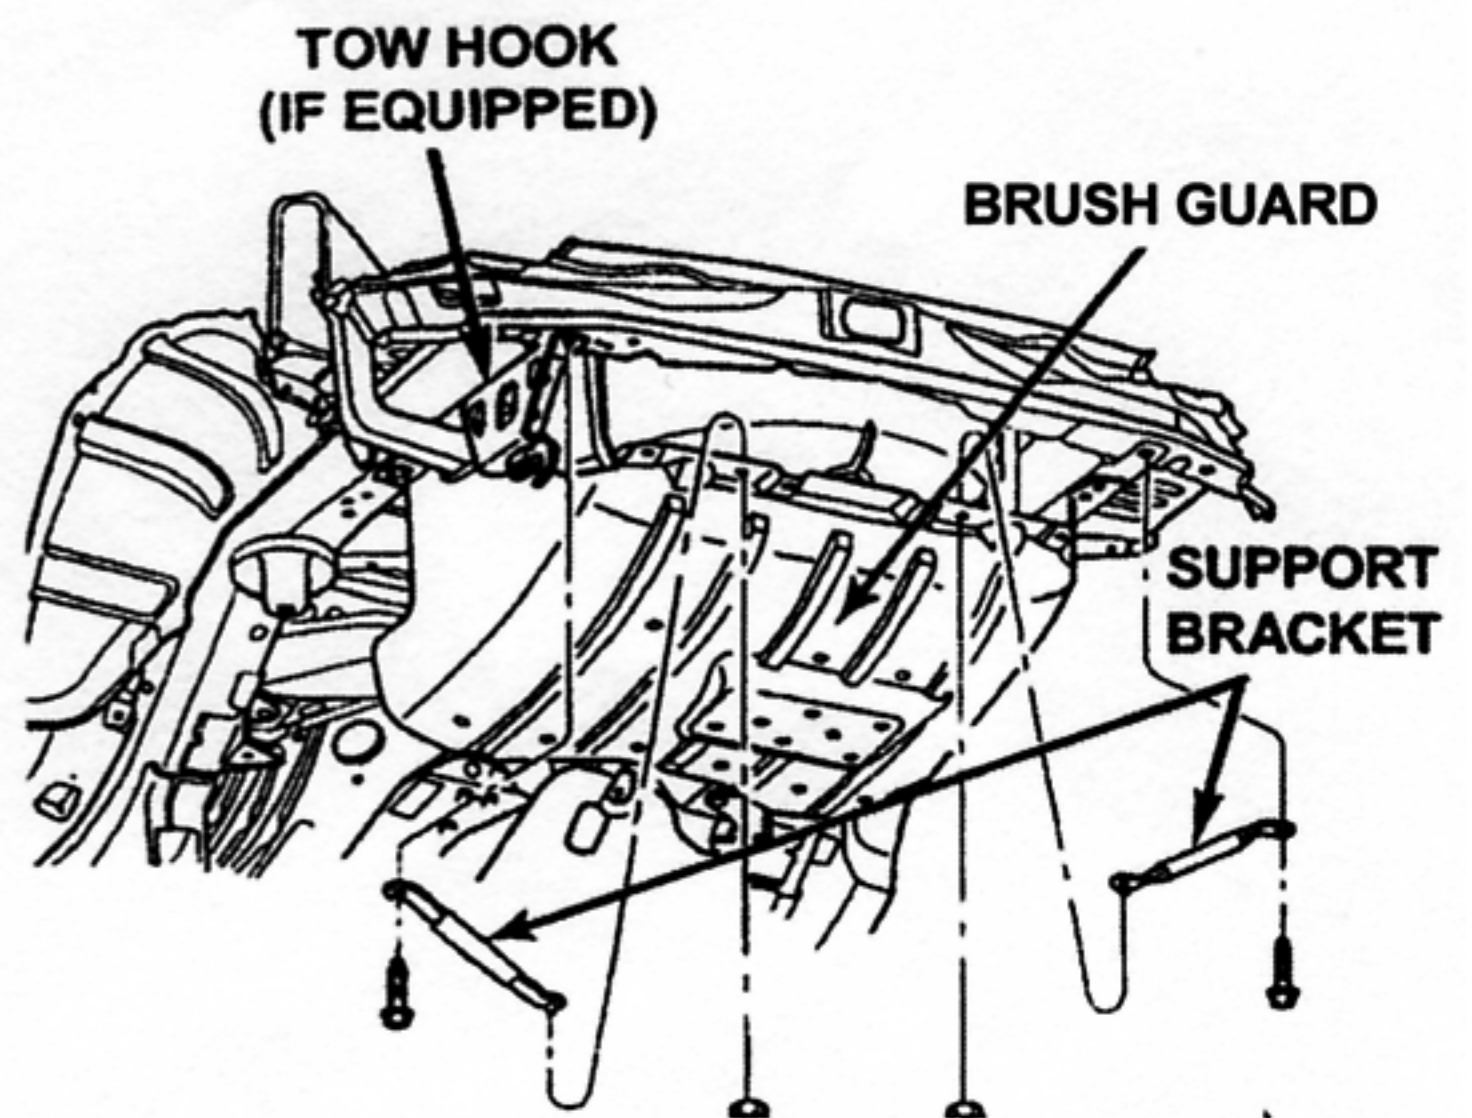

Figure 2
4. Loosen, but do not remove, the bolts for the two (2) rear brush guard-to-frame support brackets (Figure 2).
17. Tighten the bolts for the two (2) rear brush guard-to frame support brackets (Figure 2).